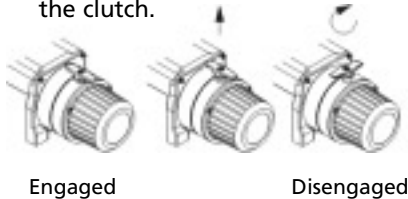

Figure 9
1. Rotate the clutch lever to the "Disengaged" position as shown in Figure 9. If there is a load on the wire rope, the clutch lever may not turn easily. **DO NOT FORCE THE CLUTCH LEVER.** Release tension on the wire rope by jogging out some of the wire rope, then try releasing the clutch.
3. Check that there are at least five (5) turns of wire rope left on the drum.
4. Re-engage the drum by rotating the clutch lever to the "Engaged" position (see Figure 9).